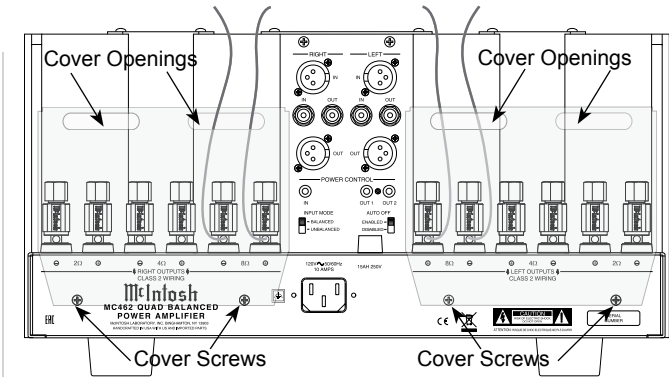

Figure 6 (Outside USA and Canada)
11. Locate the Terminal Connections Covers from the inside of the MC462 shipping carton. Insert the just prepared Loudspeaker hookup cables thru the cover openings, one cover for each channel. Refer to figure 6.
Note: The illustration in figure 6 is connections for 8Ω (ohms) Loudspeakers.
13. Attach the Terminal Connections Covers to the MC462 Rear Panel with the previously removed Screws. Refer to figure 6.
13. Locate the Terminal Connection Covers from the inside of the MC462 shipping carton. Insert the just prepared Loudspeaker hookup cables thru the cover openings, one cover for each channel. Refer to figure 6.
- 15. Attach the Terminal Connections Covers to the MC462 Rear Panel with the previously removed Screws. Refer to figure 6.